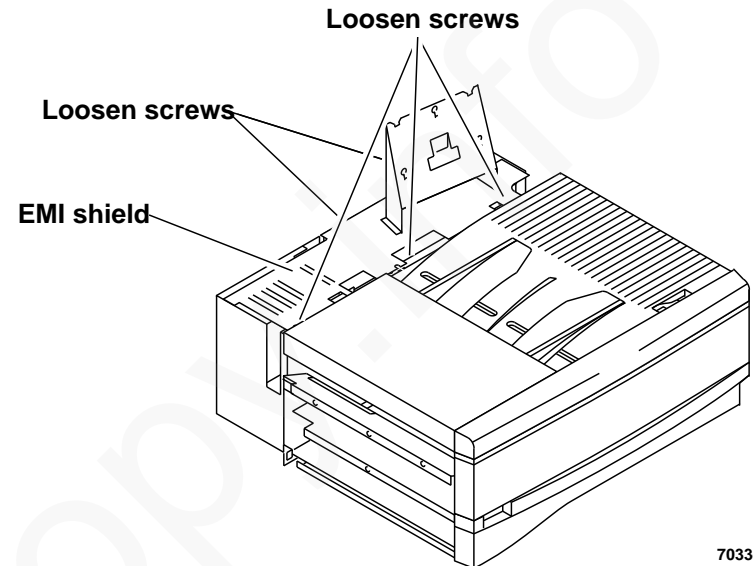

Figure 3. EMI shield removal
- a. Loosen five screws (Figure 3).